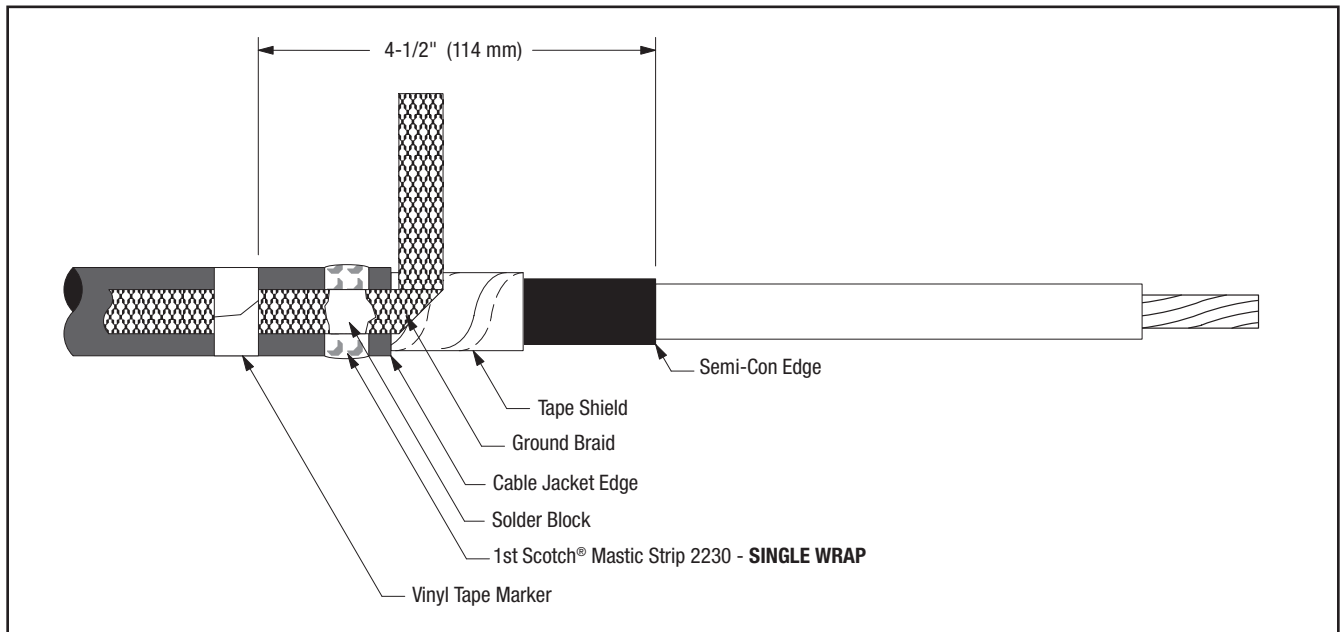

Figure 3
3.2 Position pre-formed ground braid with short tail over tape shield directly adjacent to cable jacket cut edge. PLEASE NOTE: The ground braid needs to make full contact with the metallic tape shield. Position long tail of ground braid, extending over cable jacket with solder block over mastic strip (Figure 3). Secure ground braid to cable jacket **4-1/2" (114 mm)** from cable semi-con edge using vinyl tape (see NOTE and Figure 3).